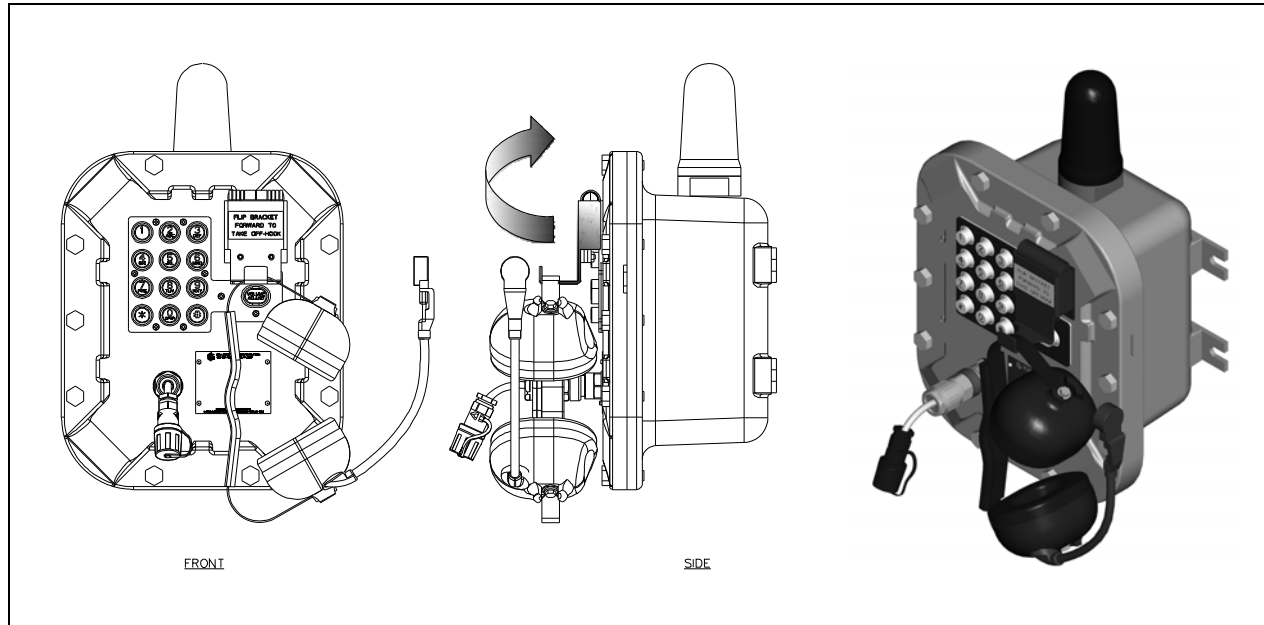

Figure 17. On-hook Configuration – Div. 1 WiFi Page Phone – Headset Version
1. To connect the headset, plug it into the flexible plug on the front of the telephone by removing the sealing cap from the receptacle, aligning the connector pins, and screwing the two ends together. See Figure 17. **NOTE:** The headset can be connected while the unit is powered.